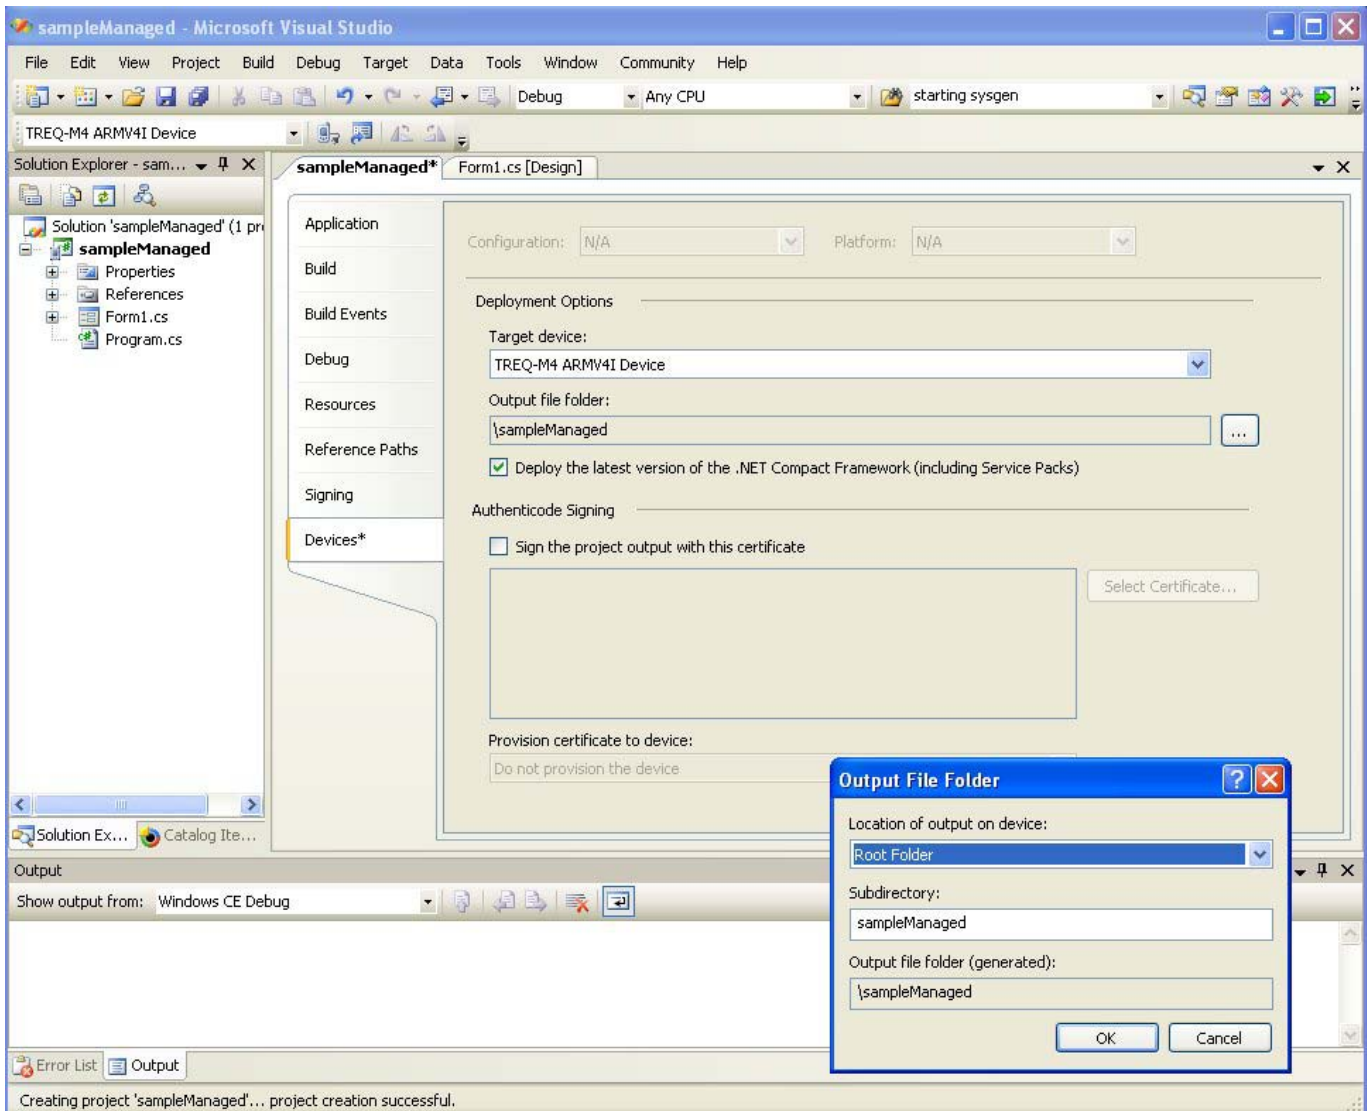

Figure 29
Visual Studio 2005 will deploy, install, and debug with the .NET Compact Framework v2.0 by default, if “Deploy the latest version of the .NET Compact Framework” is checked (see Figure 29). Uncheck this box to debug with the preinstalled version (v3.5). Visual Studio 2005 does not have an option to deploy and install v3.5.
Visual Studio 2008 offers a selection between v2.0 and v3.5 at the time of project creation (refer to step 2 below). If “Deploy the latest version of the .NET Compact Framework” is checked (see Figure 29), Visual Studio will deploy, install, and debug with the selected version.
8. In Devices, select the desired Output file folder (see Figure 29, “Visual Studio, Managed Project Properties”). This parameter determines the path in the TREQ-M4 file system where the executable will be deployed and executed.